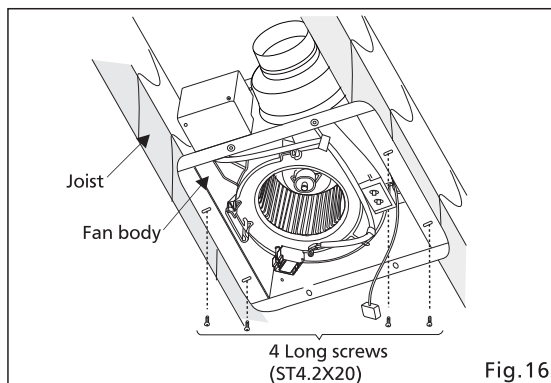

Fig.16
2. Secure 4 long screws (ST 4.2X20) at flange of frame. (Fig. 16)